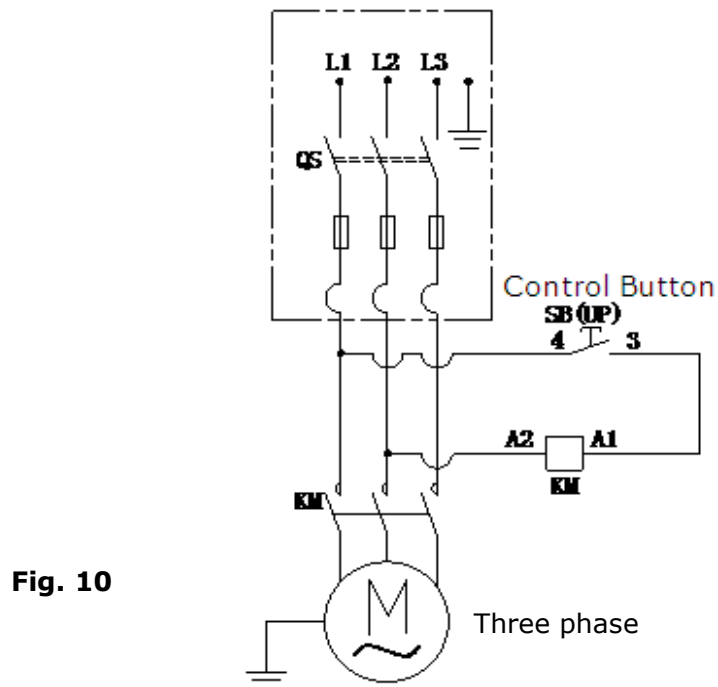

Fig. 10
1. Electric diagram (See Fig.10)